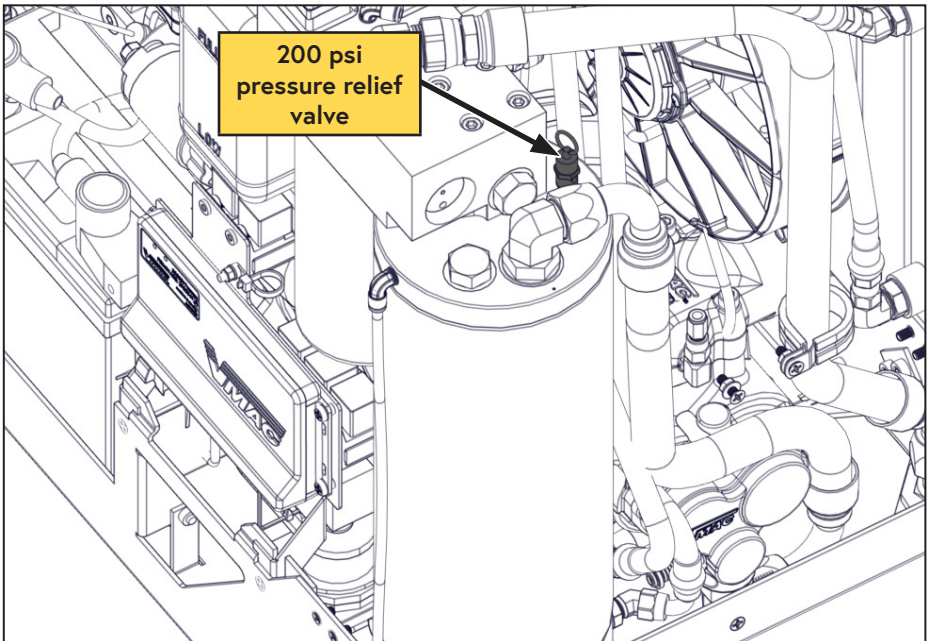

Figure 7 — Pressure relief valve
- Visually inspect the pressure relief valve to ensure it is not corroded and that the vent holes are not plugged (Figure 7).